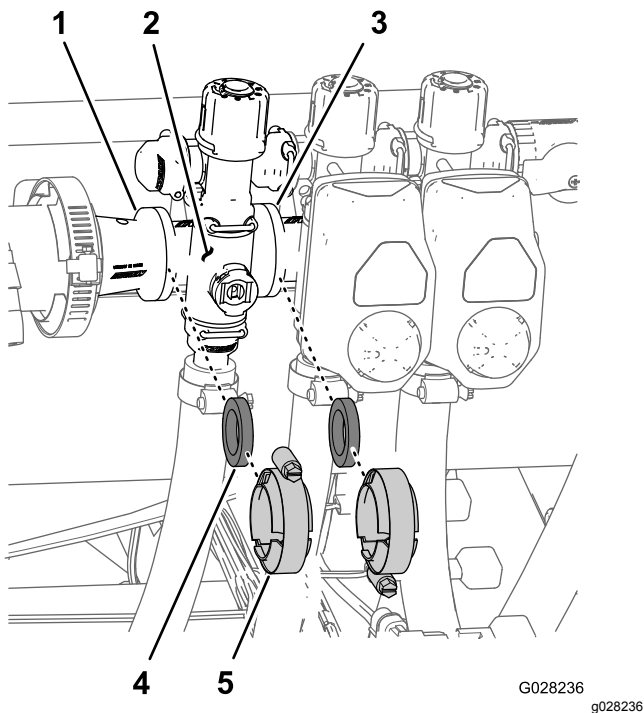

Figure 94
1. Remove clamps and gaskets that secure the manifold for the section valve (Figure 94) to the adjacent section valve (if left section valve, and the reducer coupling).